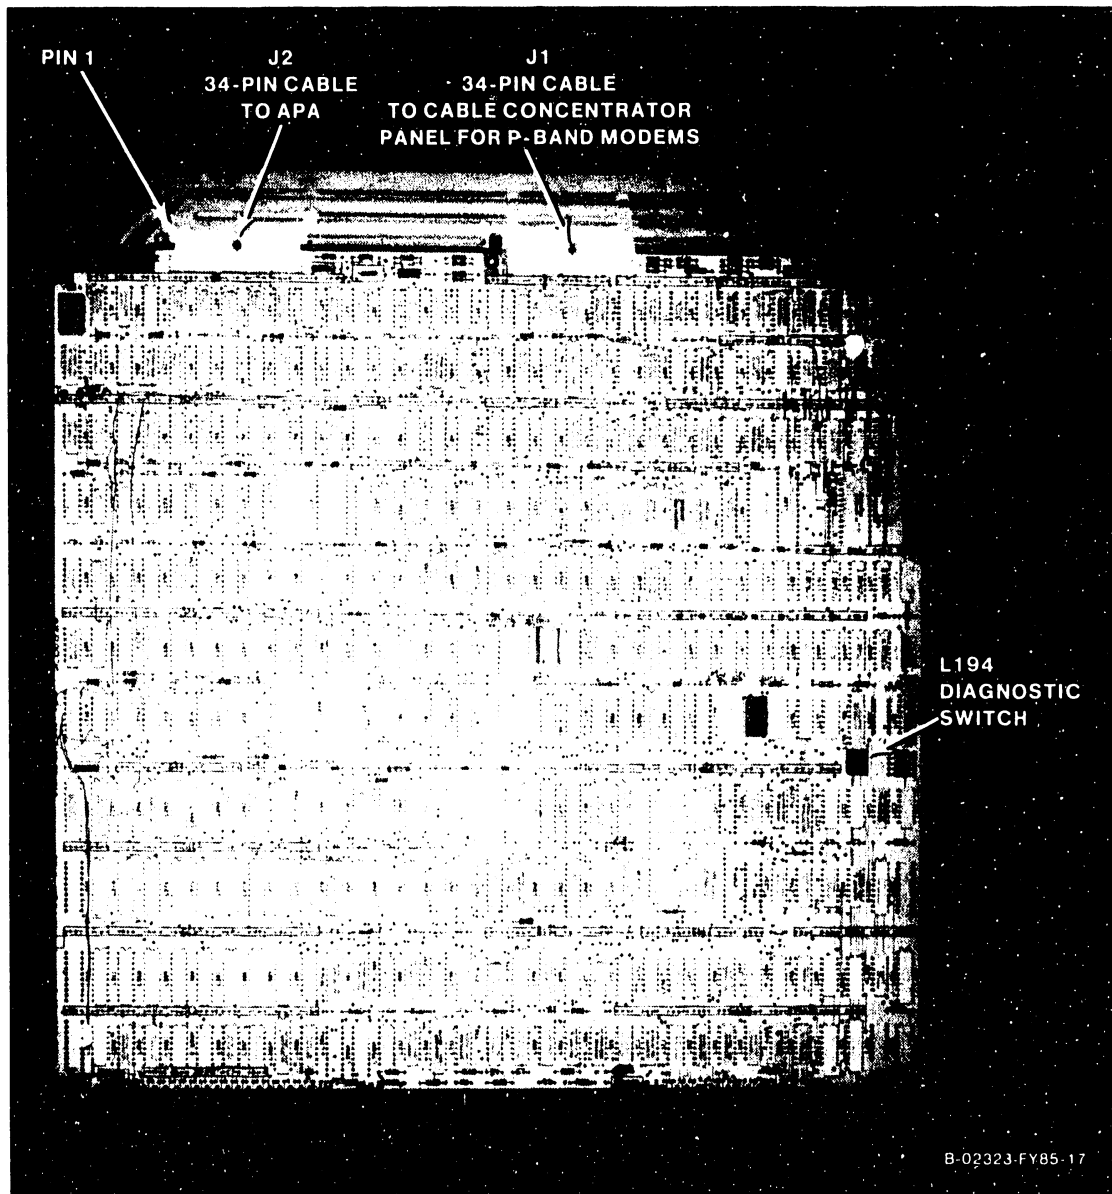

Figure 5-23. 23V97 Serial IOC
2. Disconnect all cables from the top of the 23V97 Serial IOC (figure 5-23). Note the position of all cables for later reassembly.